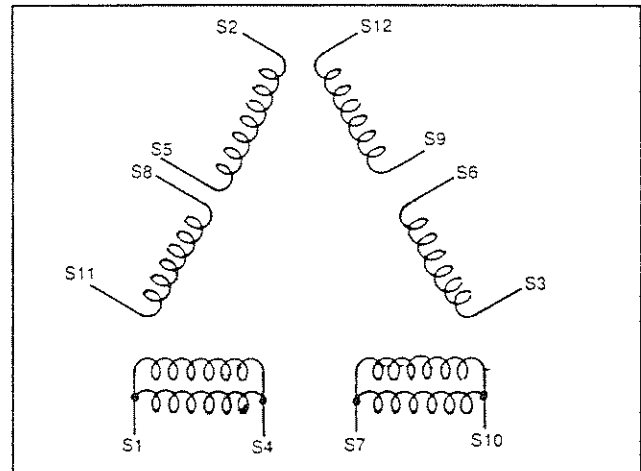

Figure 9. Stator Output Leads (3-Phase)
- b. See Figure 9. Test all six of the stator AC power winding coils for continuity by connecting VOM test probes across each of the following pairs of leads. Refer to "Stator Winding Resistance Values" on Page 1 for nominal resistance values. A very high reading or "infinity" indicates an open condition.
- (1) S1 to S4.
- (2) S7 to S10.
- (3) S8 to S11
- (4) S3 to S6.
- (5) S9 to S12.
- (6) S2 to S5.